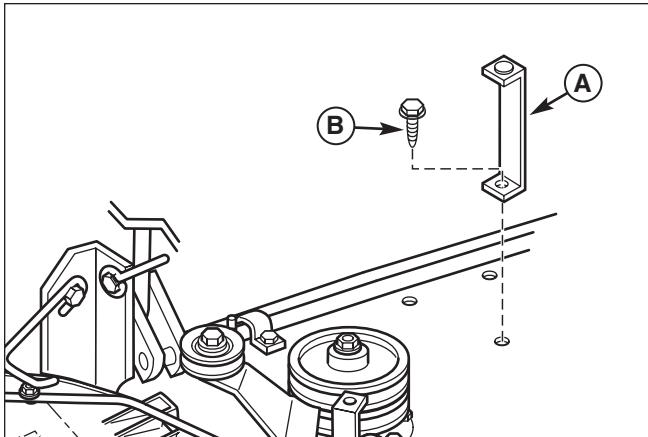

Figure 13. Install Up-Stop
1. Install the up-stop (A, Figure 13) securing with 5/16-18 x 5/8 capscrew (B) as shown.